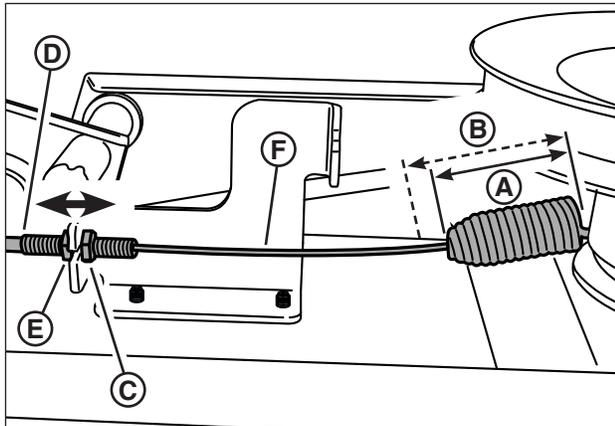

Figure 41: PTO (mower blade belt) cable adjustment (components removed for clarity)
2. With the unit off and the mower blade disengaged (refer to "How To Engage The Mower Blade"), measure the body of the blade engage spring (A, Figure 41).
3. Engage the mower blade, and measure the extended blade spring (B). It should measure 3/8" to 1/2" longer than the unextended spring measurement in Step 2.
4. If adjustment is needed, disengage the mower blade, loosen the rear jam nut (C) securing the PTO cable housing (D), and adjust the cable housing in or out using the front jam nut (E).
*NOTE: Check to be sure there is slack in the PTO cable (F) when the mower blade is disengaged. This is essential for correct operation of the blade brake. If there is no slack, lessen the cable tension until slack is obtained.*